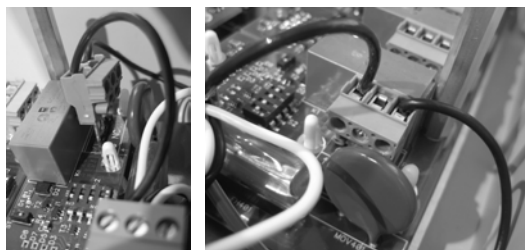

Figure 5 - Plug the Channel Output Connector onto the Channel Output pins of the Output Module
- Connect the Output Connector to the Output Module connector, P1, as shown in Figure 5.